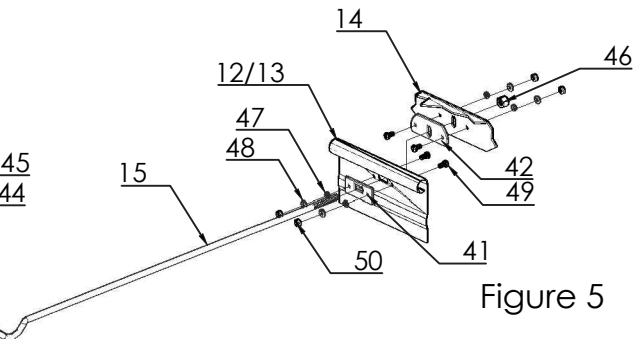

Figure 5
15. Bolt reinforcement plates, Ref. Nos. 41 & 42 to inside of both cover and upper most shell. Place cover on feeder. Align cover rod holes with holes on upper shell. Insert cover rods, Ref. No 15, from outside and secure to cover using 3/8" nylon-insert locknut, Ref. No 46. Place 3/8" nut and washer, Ref. Nos. 44 & 45 on offset end of cover rods (these will be on the inside of cover). Place offset end of cover rods through holes on top of cover secure using 3/8" nut and washer, Ref. Nos. 44 & 45. (See Figure 5)